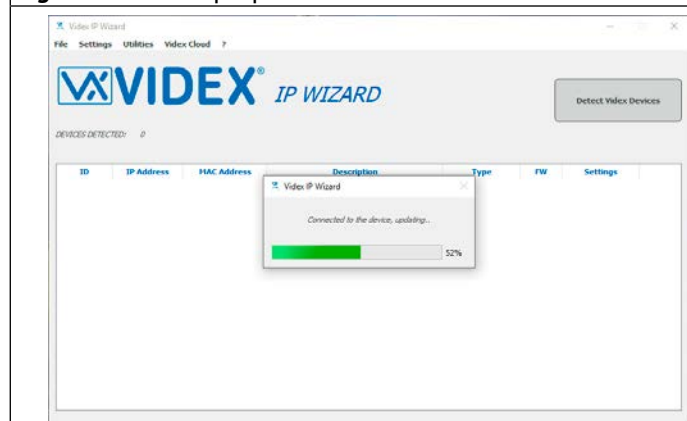
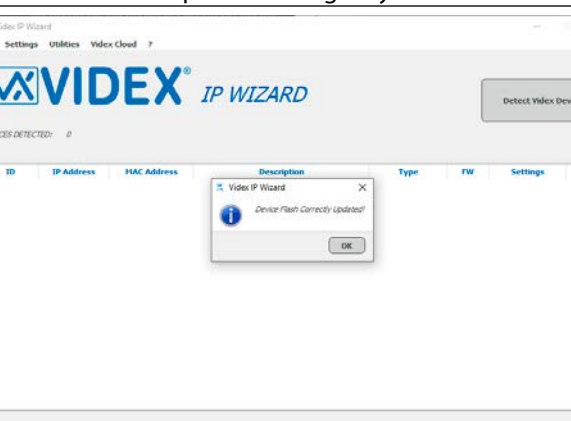

Fig. 43 Firmware update in progress
Fig. 44 Firmware update confirmation
- Wait until the firmware update (**Fig. 43**) terminates with the confirmation (**Fig. 44**)